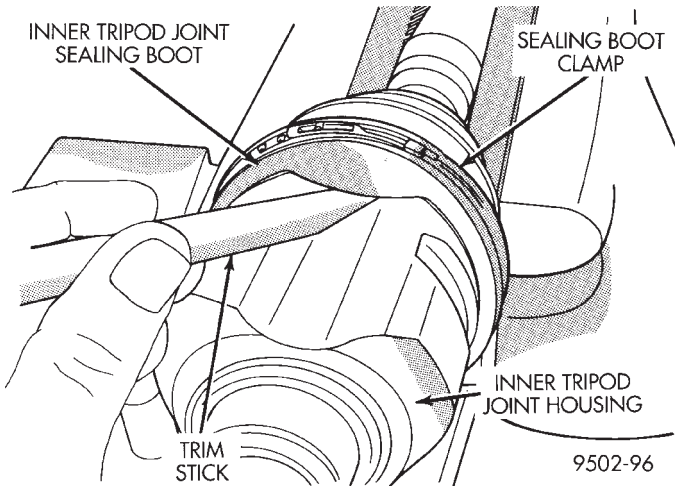

Fig. 36 Trim Stick Inserted for Venting Tripod Joint
(9) Insert a trim stick between the tripod joint and the sealing boot to vent inner tripod joint assembly (Fig. 36). **When inserting trim stick between tripod housing and sealing boot ensure trim stick is held flat and firmly against the tripod housing. If this is not done damage to the sealing boot can occur.** If inner tripod joint has a Hytrel (hard plastic) sealing boot, be sure trim stick is inserted between soft rubber insert and tripod housing not the hard plastic sealing boot and soft rubber insert.
(10) With trim stick inserted between sealing boot and tripod joint housing, position the interconnecting shaft so it is at the center of its travel in the tripod joint housing. Remove the trim stick from between the sealing boot and the tripod joint housing. **This procedure will equalize the air pressure in the tripod joint, preventing premature sealing boot failure.**
(11) Position trilobal boot to interface with the tripod housing. The lobes of the boot must be properly aligned with the recess's of the tripod housing.